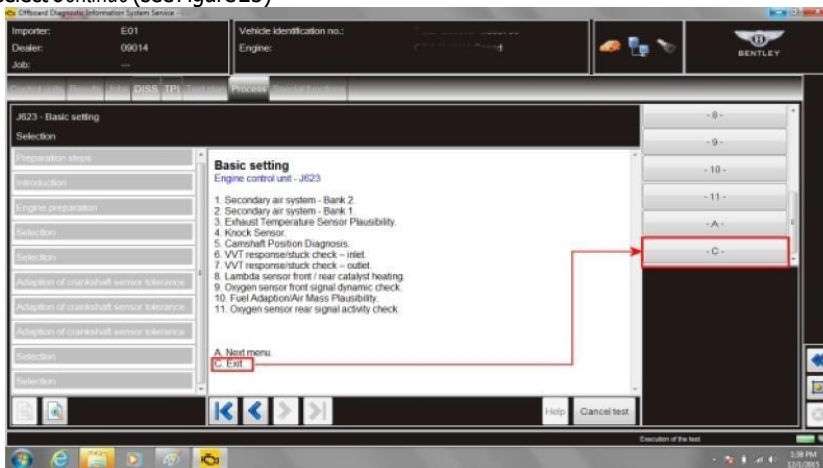

Figure 24
- At *Basic settings* screen select *C- to Exit* (see Figure 24)